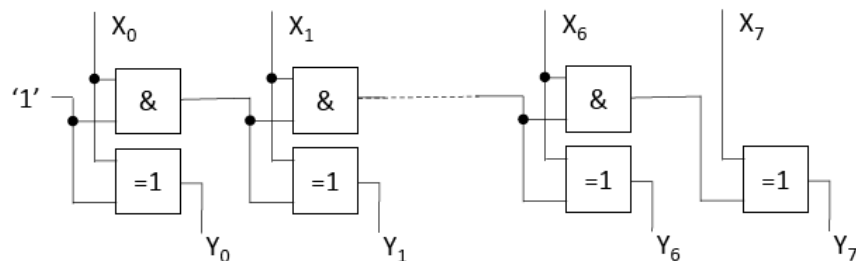

Figure 1.2
- (b) *Figure 1.2* shows a circuit that performs an arithmetic operation. Given that $X_{7:0} = AF_{16}$, evaluate $Y_{7:0}$. Hence or otherwise, derive an expression relating X and Y . State any assumptions used.